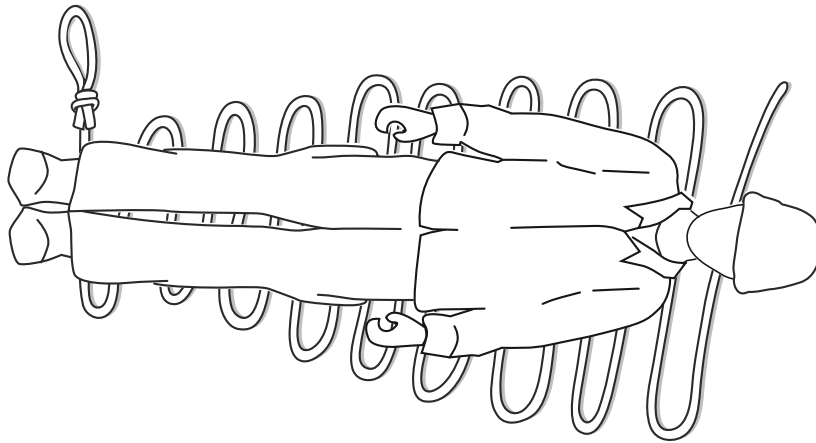

Figure 9-7. Placing the Casualty on the Rope.
- Place padding, such as an isopor mat or sleeping bag, on top of the bights and then lay the casualty on the padding and bights, as in figure 9-7. The litter can be made rigid by adding poles, sticks, or skis.